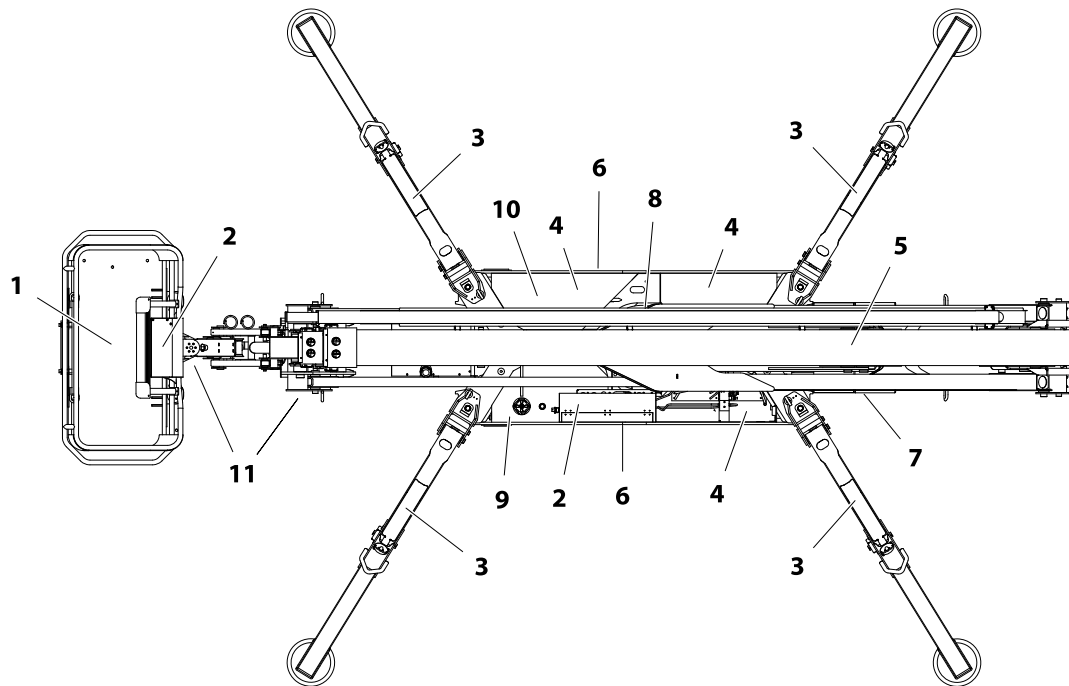

Figure 2-1. Daily Walk-Around Inspection
5. **Walk-Around Inspection** – Refer to Figure 2-1.